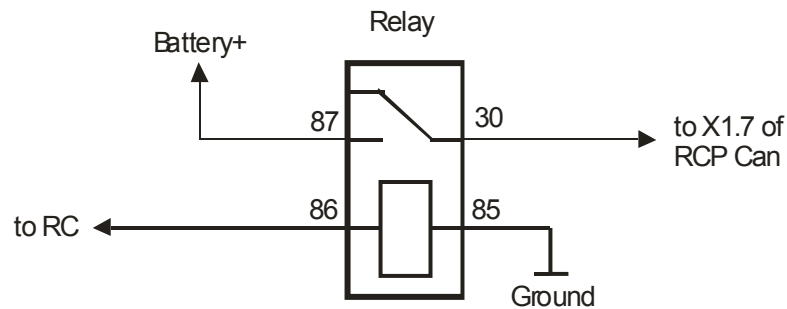

Figure 7
- The input RC_in is intended for connection of specialized remote controls such as DEFA Smart Start, Hydronic Easy Start, Webasto Telestart. If direct connection of remote control's output line to the input RC_in is not functional, the scheme at the fig.7 can be applied.